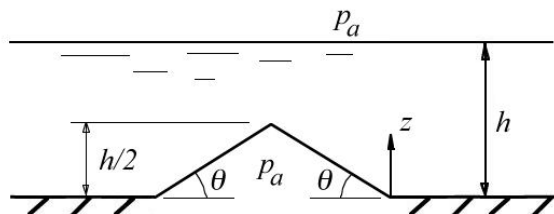

Figure P2.58
2.58 An aquarium of depth h has a passage under the main tank, as shown in Figure P2.58 (the passage goes into the paper).